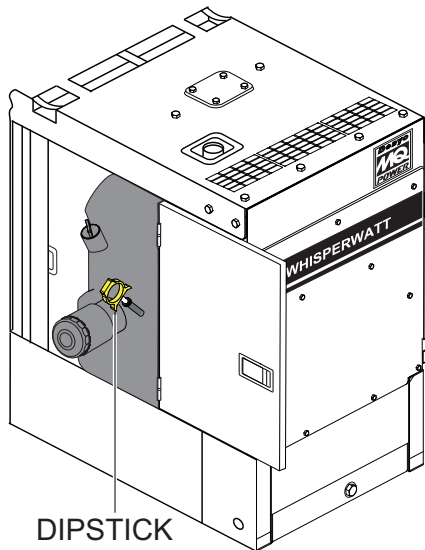

Figure 27. Engine Oil Dipstick
2. Remove the dipstick from its holder (Figure 27) and wipe it clean.